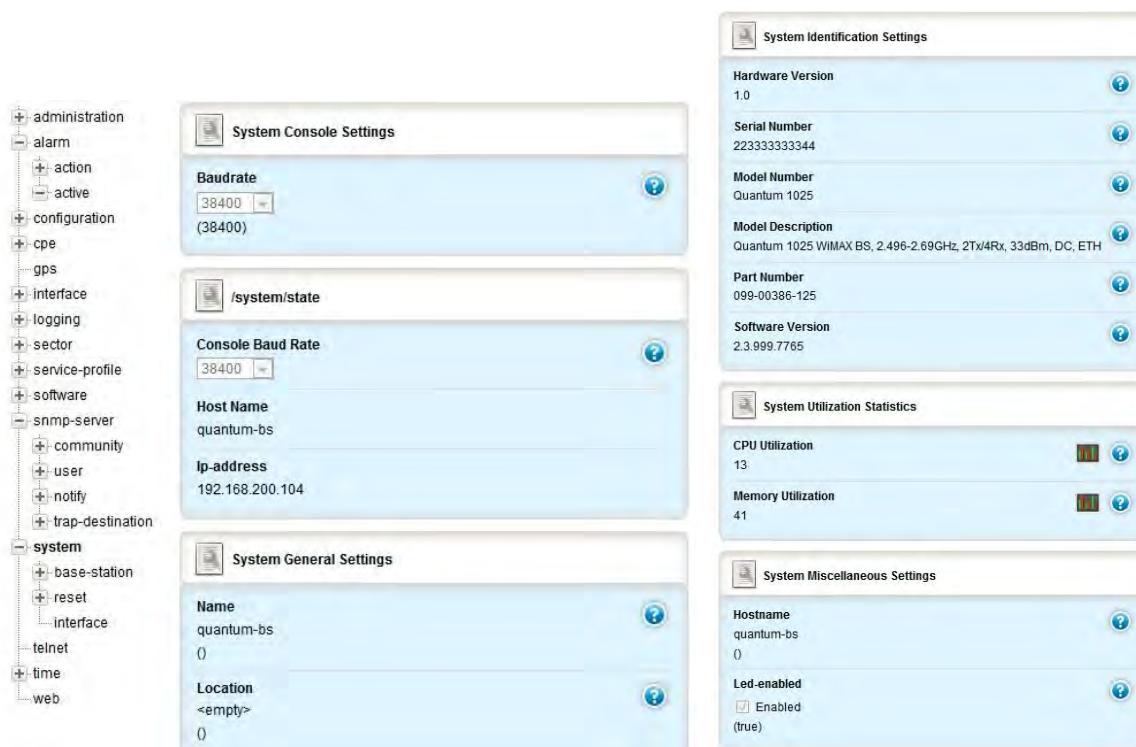

Figure 66 System Console Settings
- **System Console Settings** (Figure 66)